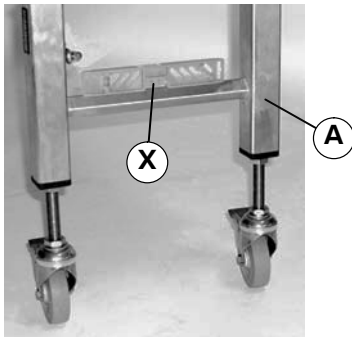

Figure 12
2. Rotate nut (W) to raise or lower stand (A) to the required height.
4. Level stand (A) from side to side using a level (X of Figure 12).